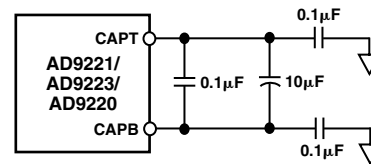

Figure 10. Recommended CAPT/CAPB Decoupling Network
The actual reference voltages used by the internal circuitry of the AD9221/AD9223/AD9220 appear on the CAPT and CAPB pins. For proper operation when using the internal or an external reference, it is necessary to add a capacitor network to decouple these pins. Figure 10 shows the recommended decoupling network. This capacitive network performs the following three functions: (1) along with the reference amplifier, A2, it provides a low source impedance over a large frequency range to drive the A/D internal circuitry, (2) it provides the necessary compensation for A2, and (3) it band-limits the noise contribution from the reference. The turn-on time of the reference voltage appearing between CAPT and CAPB is approximately 15 ms and should be evaluated in any power-down mode of operation.